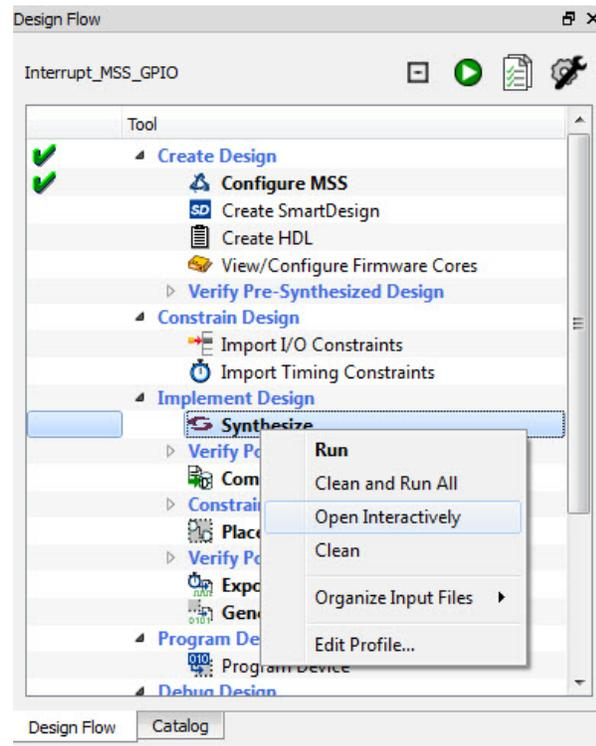

Figure 4-12 • Invoking the Synthesis Tool
- In the Design Flow window, right-click **Synthesis** and choose **Open Interactively** to launch Synplify Pro (Figure 4-12).